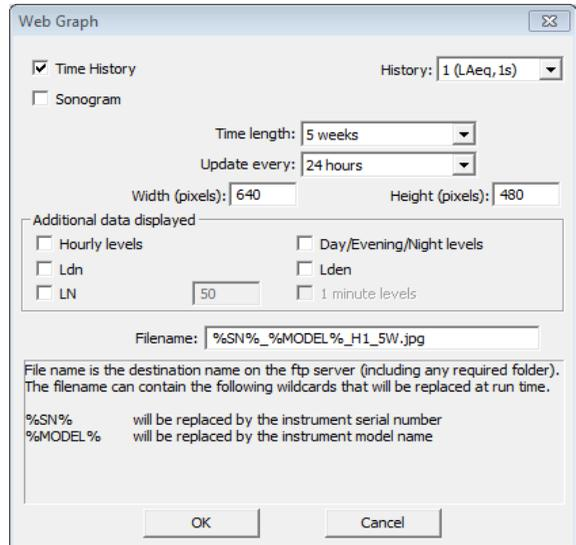

FIGURE 3-22 Web Graph
Step 8 Click **New...** This launches the **Web Graph** dialog box, as shown in FIGURE 3-22